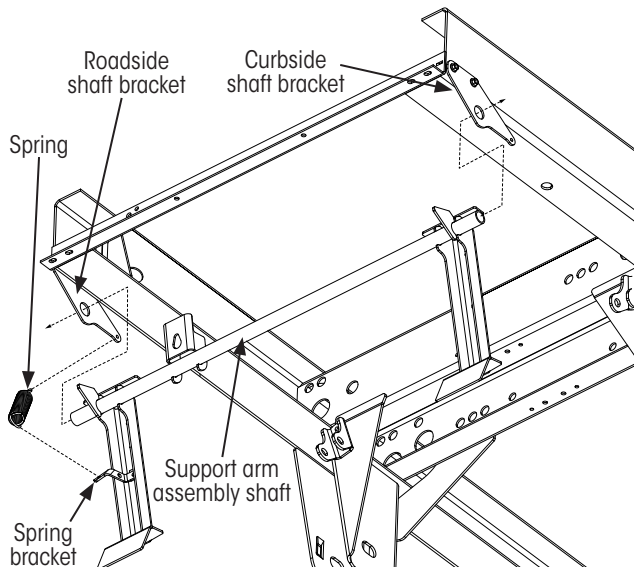

Figure 34: Support arm assembly installation
3. **Insert** one end of spring (Figure 34) through spring bracket hole on support arm assembly.
5. **Insert** roadside end of the support arm assembly shaft (Figure 34) into roadside shaft bracket.